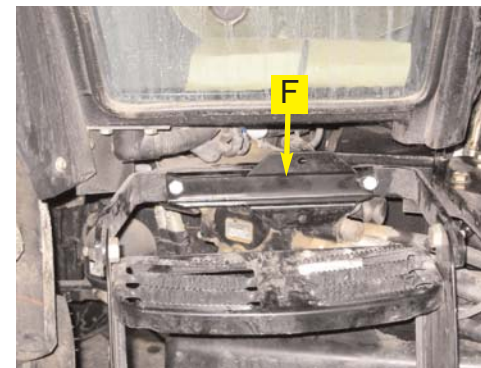

Figure 2b. Installed mounting bracket.
- b. Use the provided bolts (**H**) to mount the bracket (**F**) to the tractor step. (Figure 2b.)